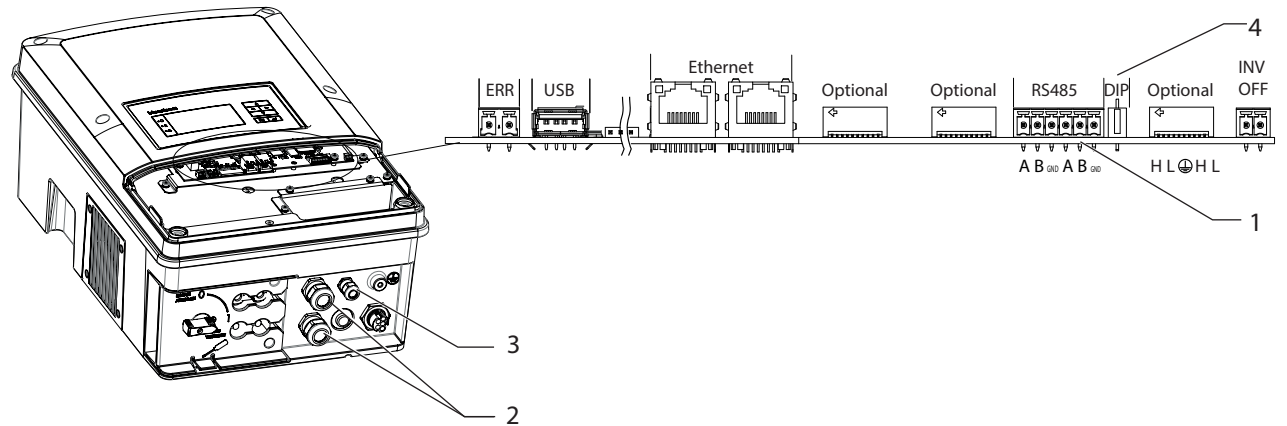

Figure 30: Connection area: Connection and assignment of the interfaces
All interfaces are located on the connection circuit board behind the cover for the connection area. Use the cable fittings and plug connections provided (see Figure 30 on page 26).
1. Loosen and remove the cover of the cable fitting (see Figure 30 on page 26).
5. Connect the connection cables to one of the corresponding Ethernet interfaces (see Figure 30 on page 26).
- Connect the connection cables to the corresponding connection terminals (see Figure 30 on page 26).
- Activate the terminating resistor on the terminal unit. (Figure 30 on page 26)